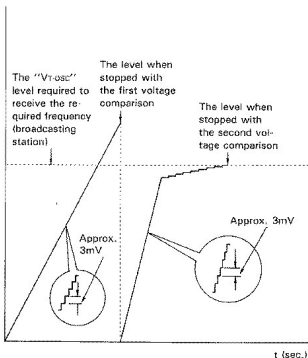

Fig. 8-1
- ⑫ "Vr2" generated as described above is compared with "Vr-osc" in IC403-1/2 (M5223-1/2) which is in the super high-gain state without negative feedback. Since IC403-1/2 is in the super high-gain state, it functions as a high-performance comparator which can detect very small errors.
- ⑬ Since the level of "Vr2" is lower than that of "Vr-osc" when the voltage comparison begins, the output of IC404-2/2 pin 7 (voltage comparator) is set to 12 V.
- ⑭ This voltage change is detected by pin 33 of IC701 to stop the clock output from pin 61.
- However, as the clock frequency has been output at ultrahigh speed, the clock frequency is still output even when the IC404-2/2 pin 7 output becomes 0 V from the time IC701 pin 33 detects the voltage change till the clock output stops. As a result, the level of "Vr2" becomes higher than that of "Vr-osc". (See Fig. 8-1.)
- ⑮ For this, another voltage comparison is performed. In the second voltage comparison, since the number of clock oscillations output after the first voltage comparison before the clock stops is stored in memory, the extra clock count corresponding to the number of clock pulses output after the voltage change can be calculated. Therefore, the number of clocks pluses (close to the voltage "Vr-osc"), from which an additional count of about 100 is subtracted, is output at ultrahigh speed.
- ⑯ After pins 5 and 64 are inverted from low to high, IC701 enters the Silent Servo operating status (the stop mode in which the clock output is stopped). Since pins 5 and 64 go high, the following operations will be performed: